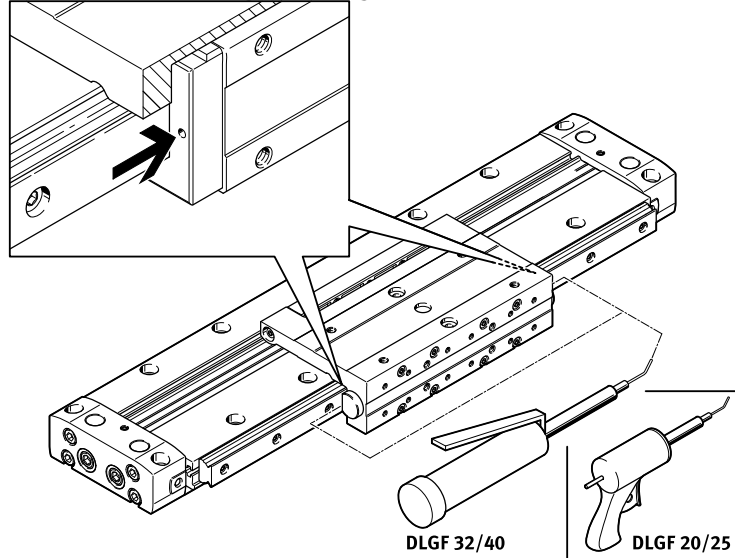

Fig. 10
- Oil or grease the guide at all relubrication openings → Fig.10.